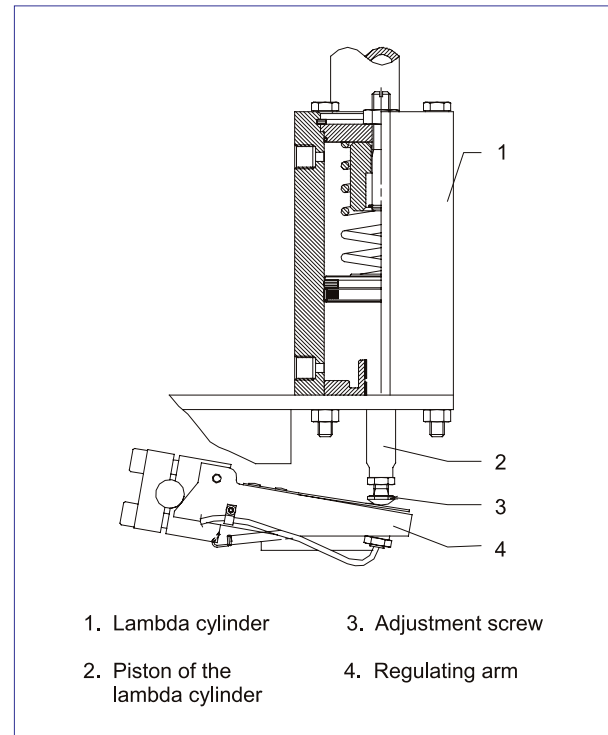

Fig 3 Lambda Controller
- 3) In case of large deviation from index 17 adjustment is done by turning the regulating arm (4), fig 3. Finally adjustment is done at the adjustment screw (3), fig 3.